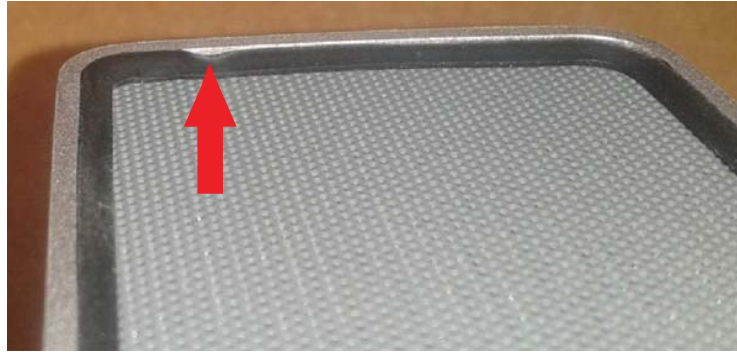

Figure 31. PSA Location
7.2 Align the PSA with the front and rear baffles as shown in Figure 31.